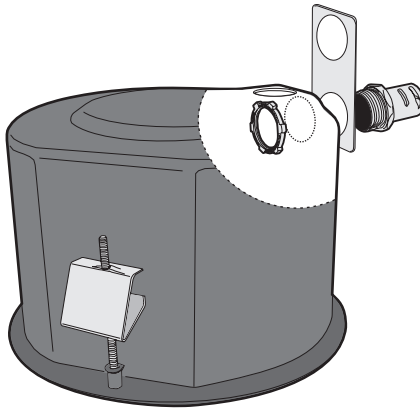

Figure 2. Attaching the Conduit Fitting, Lock Nut, and Safety Chain Bracket
2. Attach a conduit fitting (not supplied), lock nut (not supplied), and safety chain bracket (refer to Figure 2).
5. Attach a conduit fitting (not supplied), lock nut (not supplied), and safety chain bracket (refer to Figure 2 on page 8).